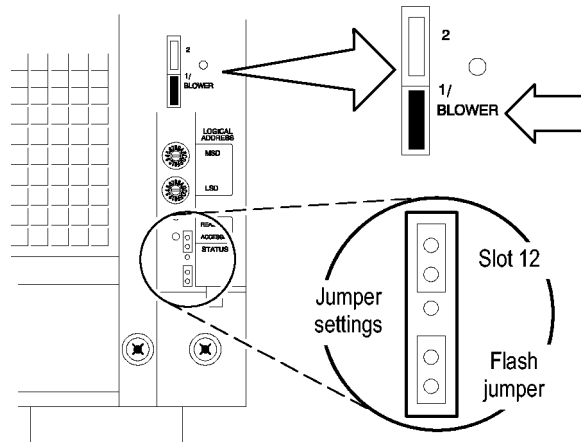

Figure 17: Connect the flash jumper
6. At the back of the Enhanced Monitor Card, connect a jumper on the bottom two flash programming pins. (See Figure 17.)
10. Connect the fan cable (or cable adapter) to the connector labeled 1/BLOWER on the Enhanced Monitor Card. (See Figure 17.)